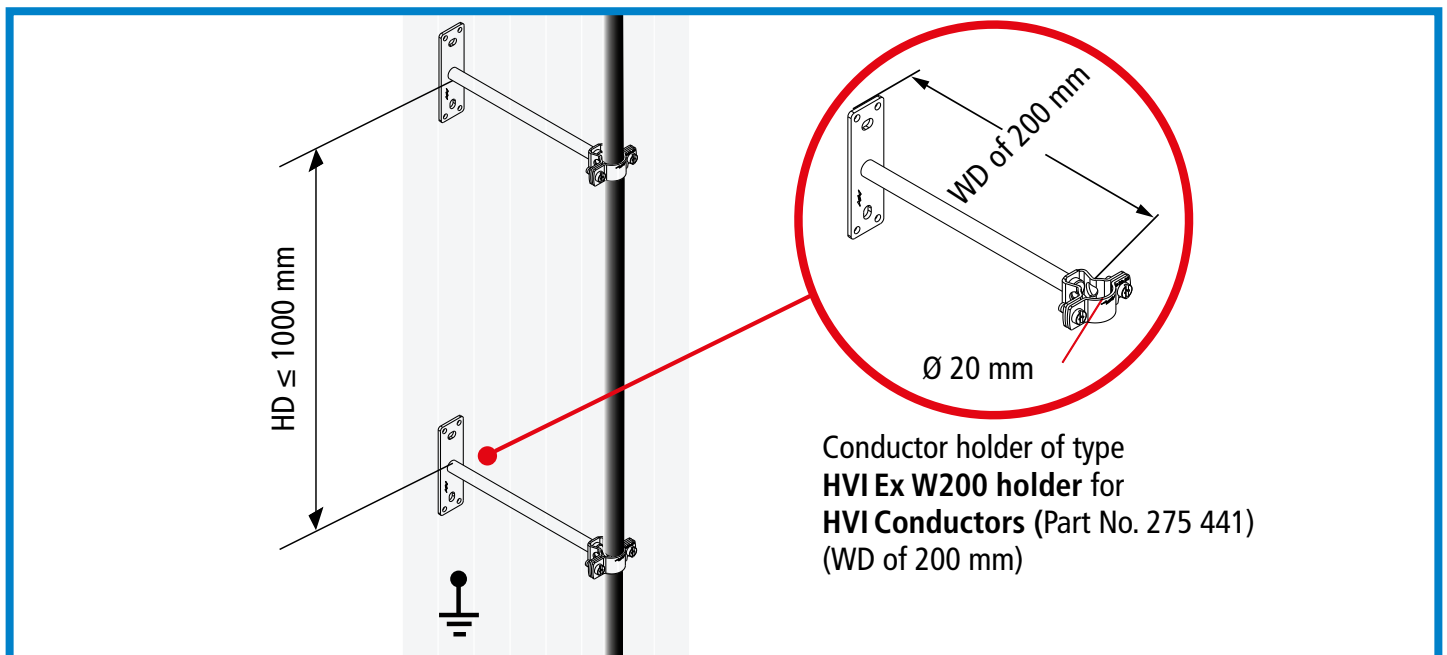

Figure 2 Installation in parallel to an earthed metal façade: holder distance of 1000 mm; wall distance of 200 mm
If metal conductor holders of type **HVI Ex W200 holder** holder with a wall distance (WD) of 200 mm (Part No. 275 441) and a maximum holder distance (HD) (installation distance) ≤ 1000 mm (see Fig. 2) are used, discharges can be reliably prevented.